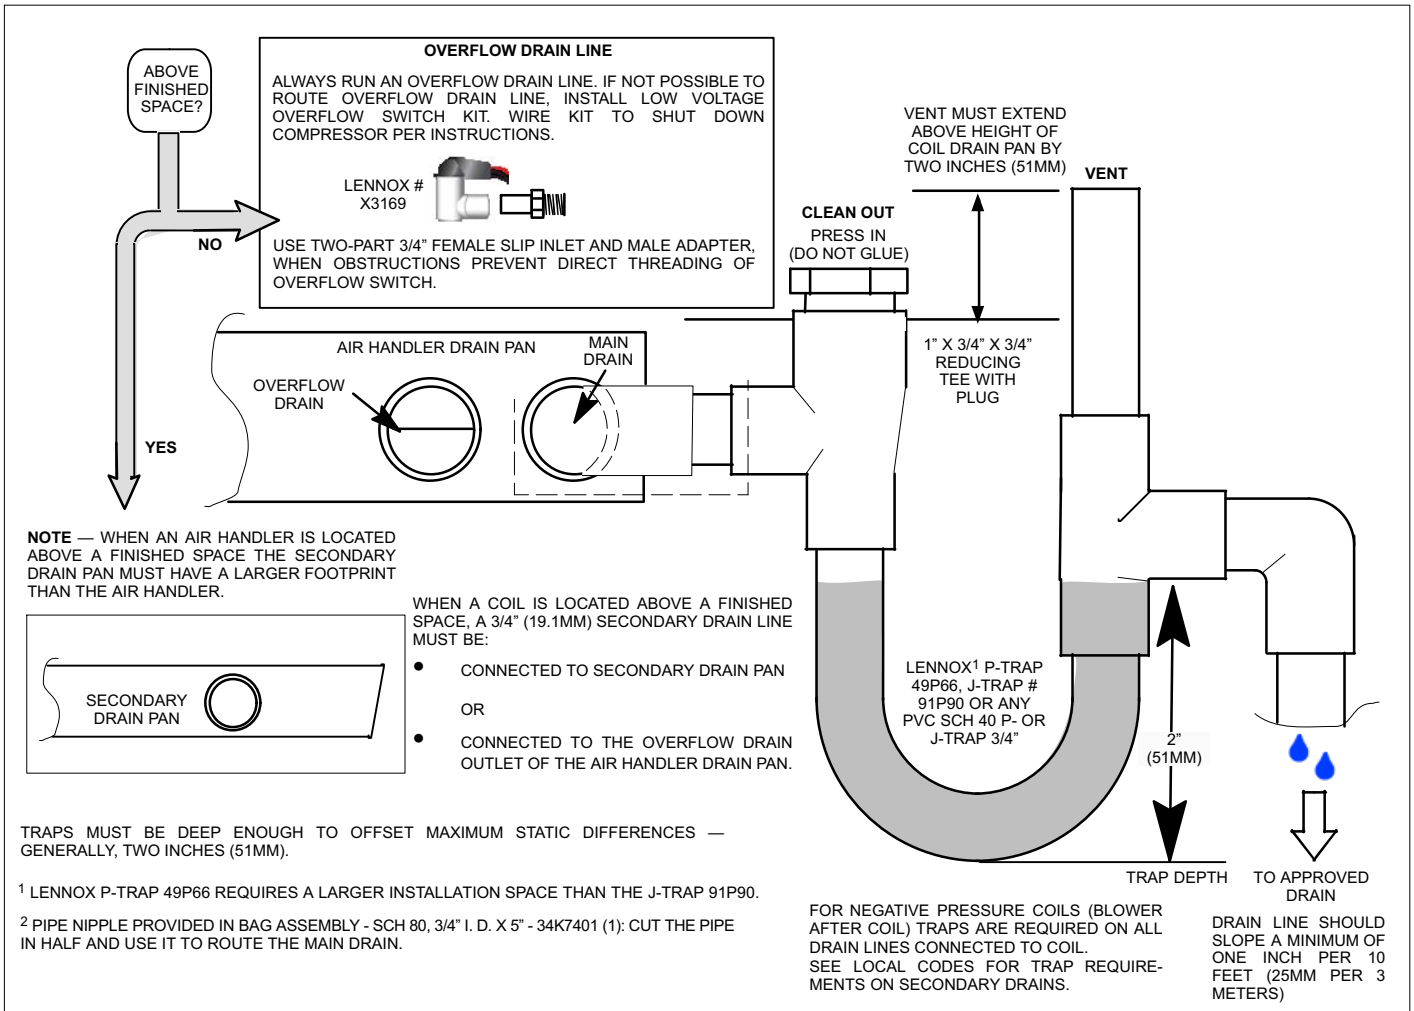

Figure 9. Typical Main and Overflow Drain
7. Install a 2" trap in the main (primary) drain lines as close to the unit as practical (see figure 9). Make sure the top of the trap is below the connection to the drain pan to allow complete drainage of the pan.
NOTE - Horizontal runs must have an anti-siphon air vent (standpipe) installed ahead of the horizontal run. See figure 9. An extremely long horizontal run may require an oversized drain line to eliminate air traps.